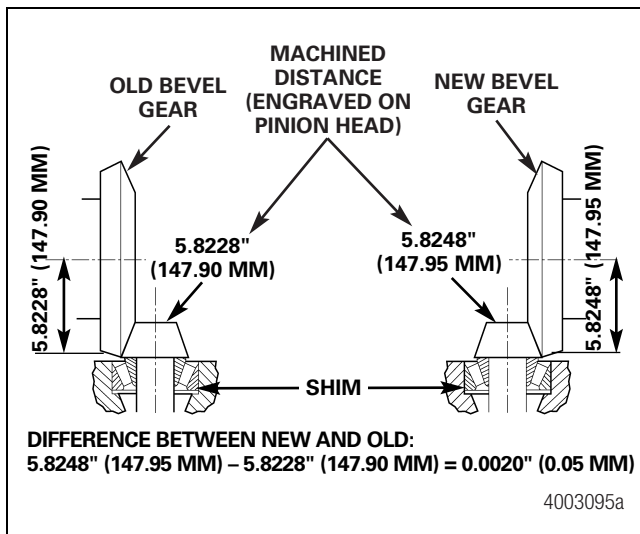

Figure 4.14
- **If the engraved machined distance of the new bevel set is larger than the old bevel set:** Install a shim that equals the difference between the new and old bevel set. Refer to Table A. Figure 4.14.
- **If the engraved machined distance of the new bevel set is smaller than the old bevel set:** Install a new shim. Refer to Table A. Figure 4.14.